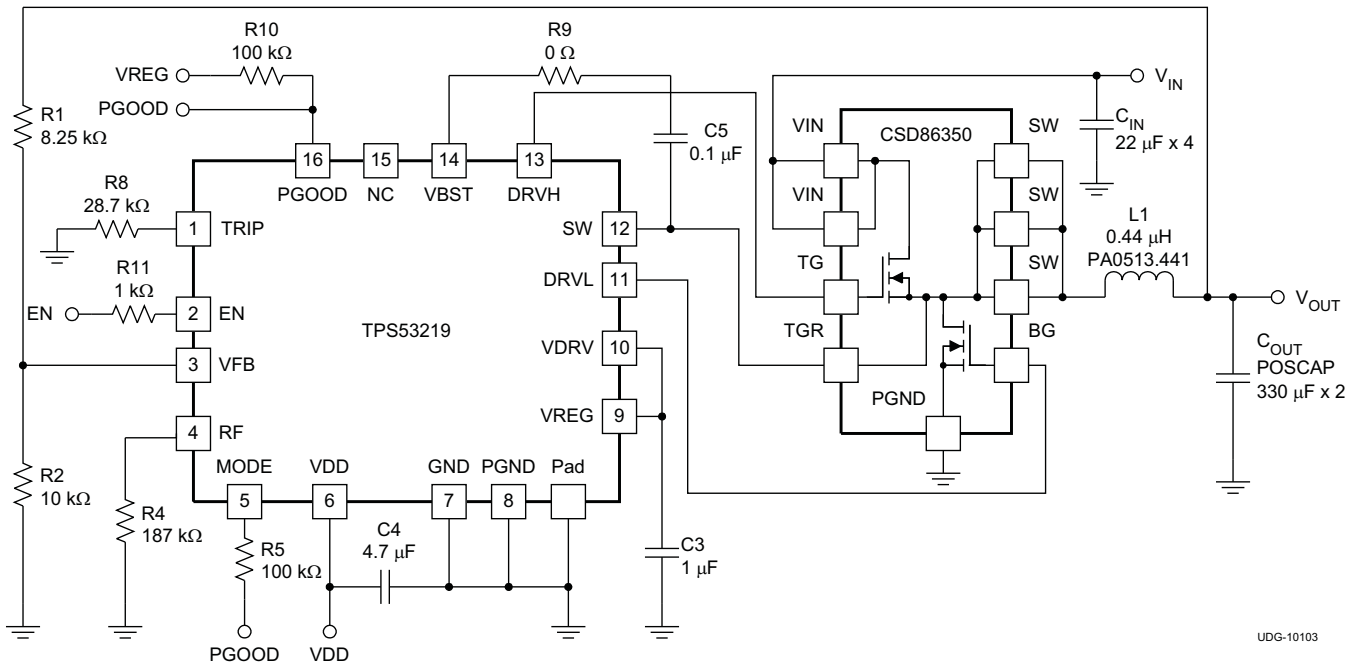
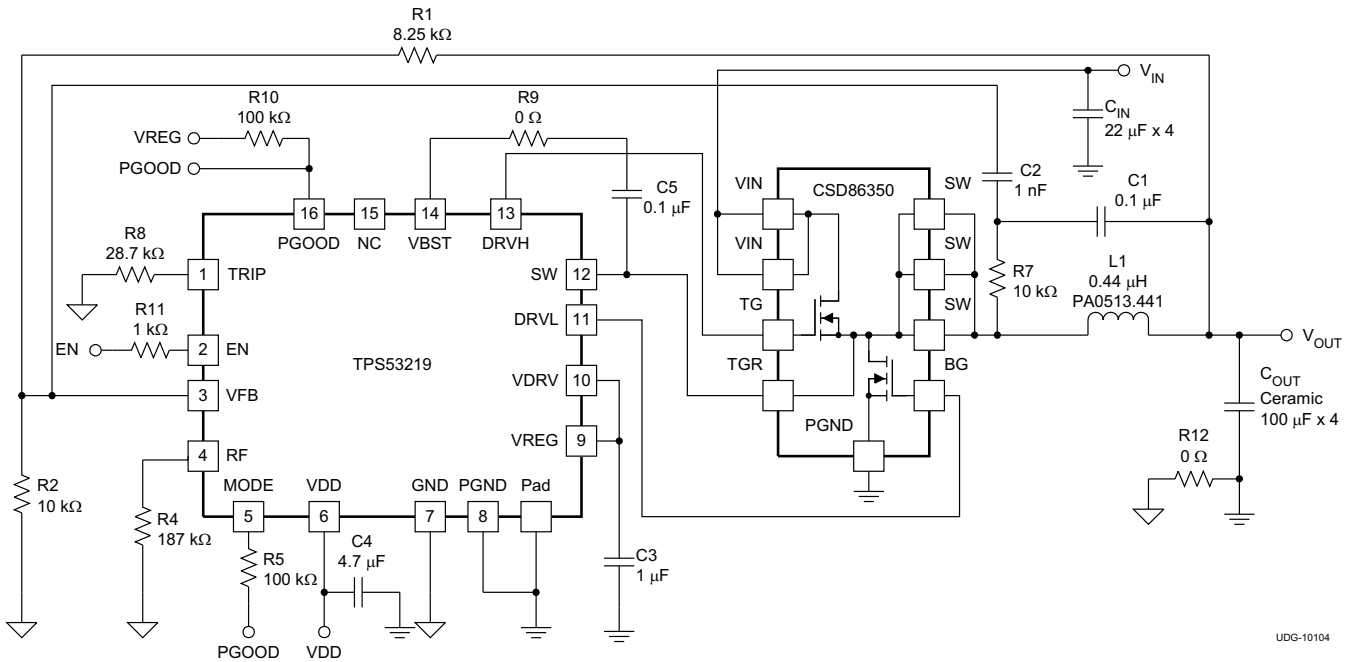

Figure 17. Typical Application Circuit Diagram with Power Block
Figure 18. Typical Application Circuit Diagram with Ceramic Output Capacitors
(1) Not production tested. Test conditions are V_{IN} = 12 V, V_{OUT} = 1.1 V, I_{OUT} = 10 A and using the application circuit shown in Figure 17 and Figure 18.
(2) Ensured by design. Not production tested
When a ceramic output capacitor is used, the stability criteria in Equation 2 cannot be satisfied. The ripple injection approach as shown in Figure 18 is implemented to increase the ripple on the VFB pin and make the system stable. C2 can be fixed at 1 nF. The value of C1 can be selected between 10 nF to 200 nF.